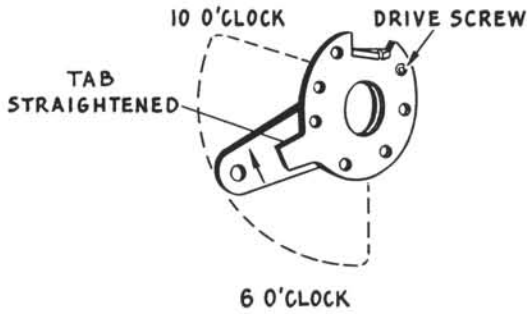

Figure 4
If bracket (F) is pointing between 6 and 10 o'clock, the tab (E) on disc (D) must be straightened as shown in figure 4. Do not remove drive screw.